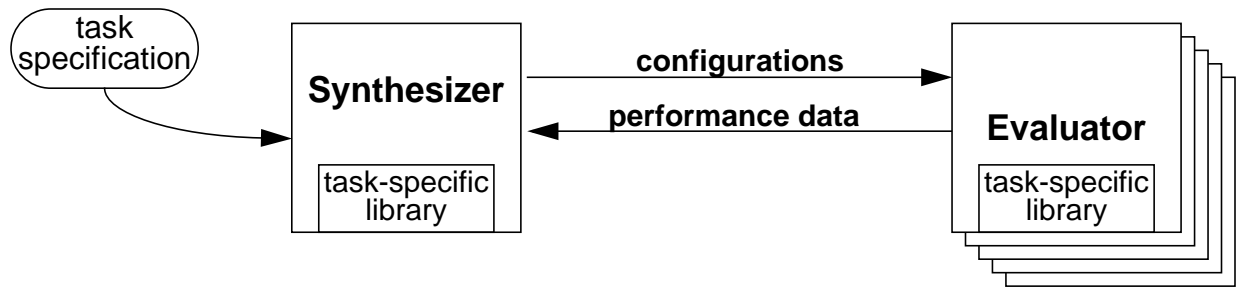

Figure 1.1: Software architecture
Darwin2K contains several programs and a suite of robot simulation libraries. The two main programs are the synthesizer (or *Population Manager (PM)*) and the evaluator (see Figure 1.1). The synthesizer generates robot designs and sends them to the evaluator, which simulates the robot and returns performance measurements to the synthesizer. In practice, many evaluator processes can be distributed across a network of computers (or among multiple CPUs in a multiprocessor computer) since evaluating designs is the most computationally expensive part of the synthesis process. The evaluator program makes use of Darwin2K's libraries of robot parts and simulation and control algorithms. Some of the features included in these libraries are:
In Darwin2K, robots are built from *parameterized modules*. As the name implies, these modules may have a number of parameters describing their properties. A module that represents a robot joint might have parameters which specify the joint's motor and gearhead, while a module for a wheeled mobile base might have parameters for the suspension type, wheelbase, and wheel diameter. Some parameters represent continuous values such as dimensions, while others are discrete and may, for example, select components from a list. Modules also have *connectors*, which are used to connect multiple modules to form a complete robot. Figure 1.1 shows a `rightAngleJoint` module, which is a joint with one degree-of-freedom (DOF) and which has a 90 degree angle between its two connectors. (Note that the `courier` font is used when discussing software objects, types, or examples; this convention will be followed throughout the tutorial.) There are four general types of modules in Darwin2K (joints, links, bases, and tools), each with special capabilities. For example, joints have degrees of freedom, while tools have tool con-